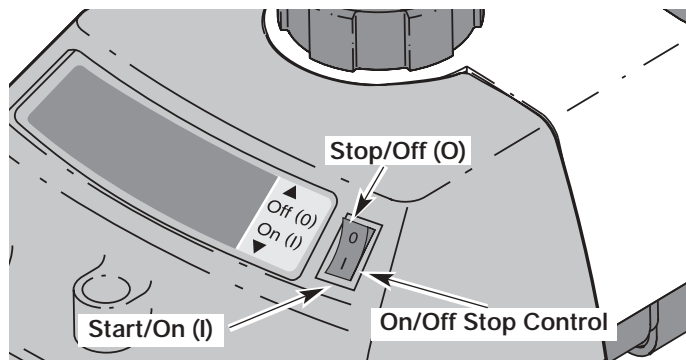
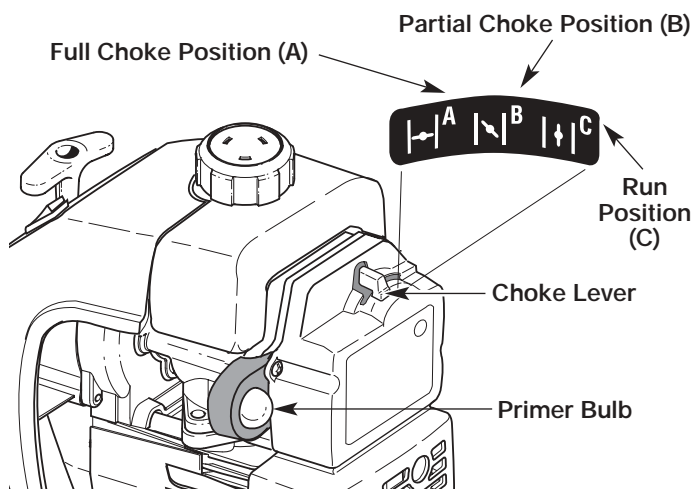

Figure 6
Figure 7
2. Put the On/Off Stop Control in the **ON (I)** position. See Figure 6.
3. Fully press and release the primer bulb 10 times, slowly, until **FUEL IS VISIBLE IN THE PRIMER BULB**. See Figure 7. If you can't see fuel in the bulb, press and release the bulb as many times as it takes before you can see fuel in it.
4. Place the choke lever in the **FULL** choke (A |—|) position. See Figure 7.
6. Place the choke lever in the **PARTIAL** choke (B |↘|) position. See Figure 7.
NOTE: If the engine floods while trying to start, place the choke lever in the **RUN** (C |↑|) position. See Figure 7. Squeeze the throttle control. Pull the starter rope briskly. The engine should start within three (3) to eight (8) pulls.
9. Squeeze the throttle control to warm up the engine for 5 to 10 seconds. Place the choke lever in the **RUN** (C |↑|) position. See Figure 7.
NOTE: Choking is unnecessary when starting a warm engine. Put the On/Off Stop Control in the **ON** position (Figure 6), and start in **PARTIAL** choke (B |↘|) position (Figure 7). After starting, place the choke lever in the **RUN** (C |↑|) position.
2. Put the On/Off Stop Control in the **OFF (O)** position. See Figure 6.